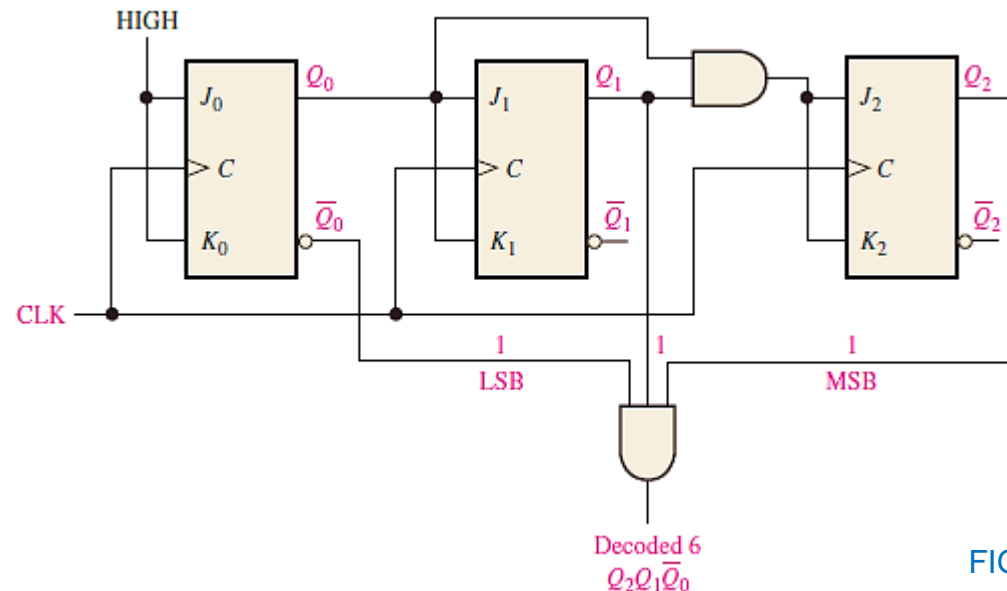

FIGURE 8 Decoding of state 6 (110).
- Suppose that you wish to decode binary state 6 (110) of a 3-bit binary counter. When $Q_2 = 1$, $Q_1 = 1$, and $Q_0 = 0$, a HIGH appears on the output of the decoding gate, indicating that the counter is at state 6. This can be done as shown in Figure 8. This is called *active-HIGH decoding*. Replacing the AND gate with a NAND gate provides active-LOW decoding.